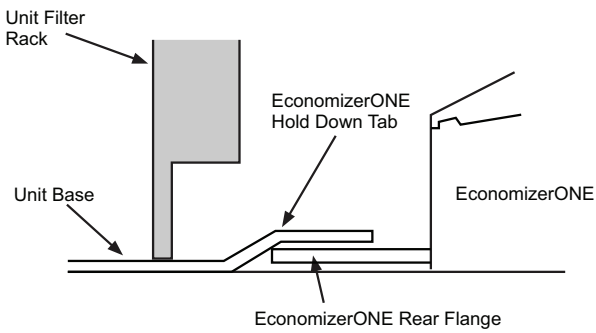

**Fig. 2 — Filter Access View**
- Remove the existing unit filter access panel. Raise the panel and swing the bottom outward. The panel is now disengaged from the track and can be removed. (See Fig. 2.)
- Remove the indoor coil access panel. (See Fig. 2.)